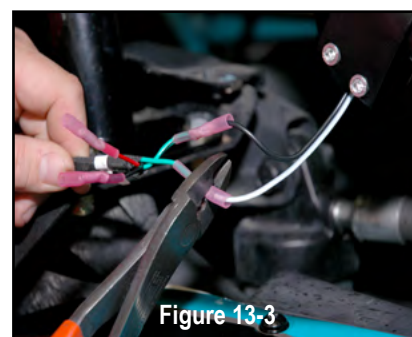

Figure 13-3
Make two (2) crimped speaker wiring connections as indicated in Figure 13-3 for the driver's side pod. Illumination wiring is optional with accessory rings. Repeat the two (2) wiring connections for the passenger's side pod.